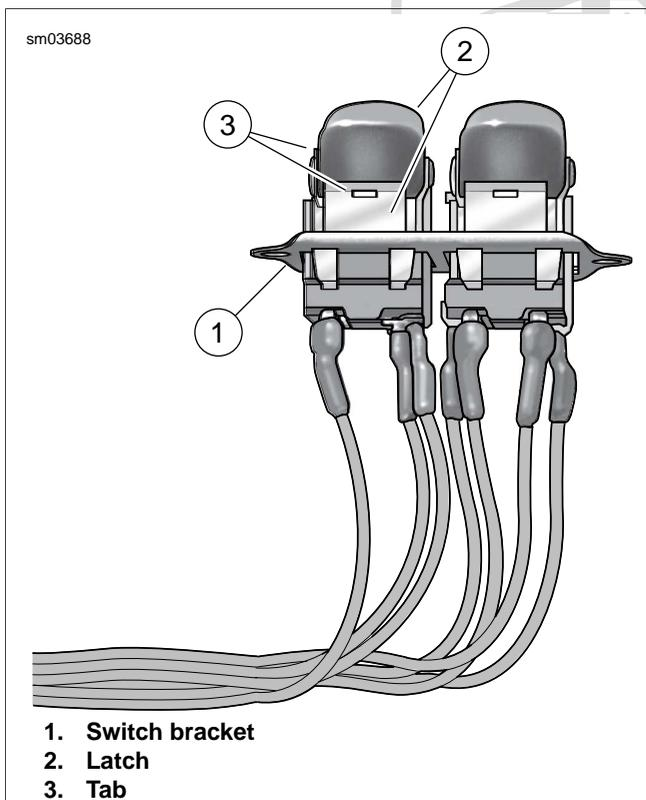

Figure 8-73. Bend Latches Outward to Release Tabs
6. Carefully pry two latches on bracket outward to release tabs on switch. Remove switch from bracket. See Figure 8-73.
5. Carefully pry two latches on bracket outward to release tabs on switch. Remove switch from bracket. See Figure 8-73.
1. See Figure 8-73. Place **new** switch into position in bracket. Engaging tabs on switch in slots of latches, gently bend tabs upward to lock position of switch in bracket.